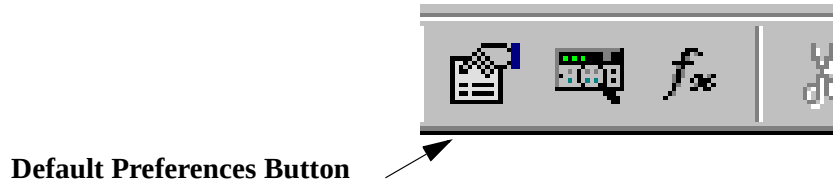

Figure 9-11. Default Preferences Button on Toolbar
1. From the main VEE menu, click File ⇒ Default Preferences, or press the **Default Preferences** button on the tool bar as shown in Figure 9-11.